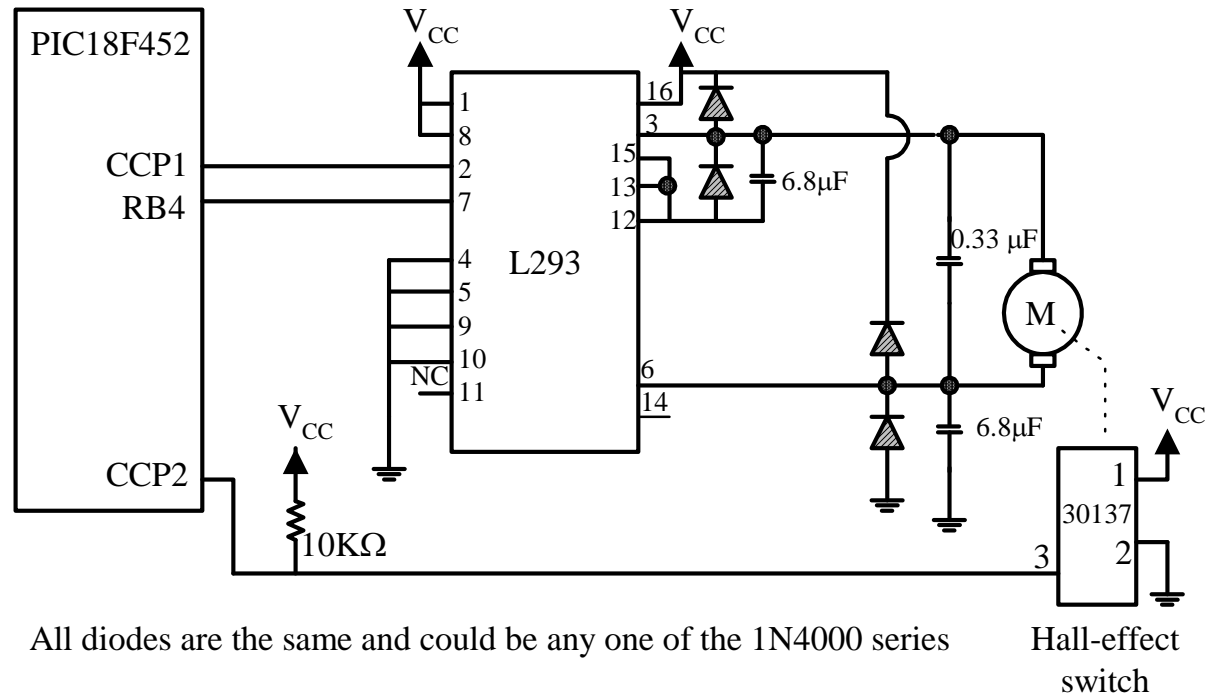

Figure 8.29 Schematic of a PIC18-based motor-control system
- The schematic of a motor-control system is illustrated in Figure 8.29.
Example 8.15 For the circuit shown in Figure 8.29, write a function in C language to measure the motor speed (in RPM) assuming that the PIC18 MCU is running with a 20 MHz crystal oscillator.